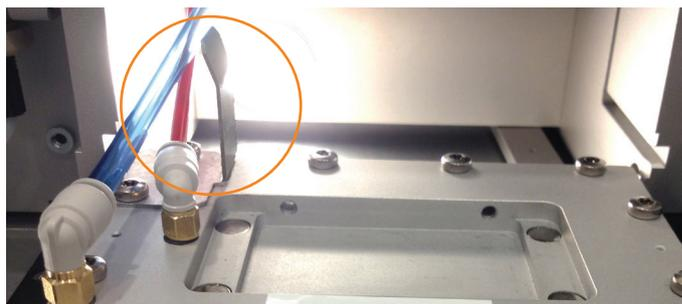

Figure 109. Ensure that the gas tubes are on the left side of the highlighted bracket.
- e. Connect the gas tubes to the pressure head of the desired format. Ensure that the tubes are properly fastened by pulling on them, and that the tubes are on the left side of the bracket as shown in Figure 109.